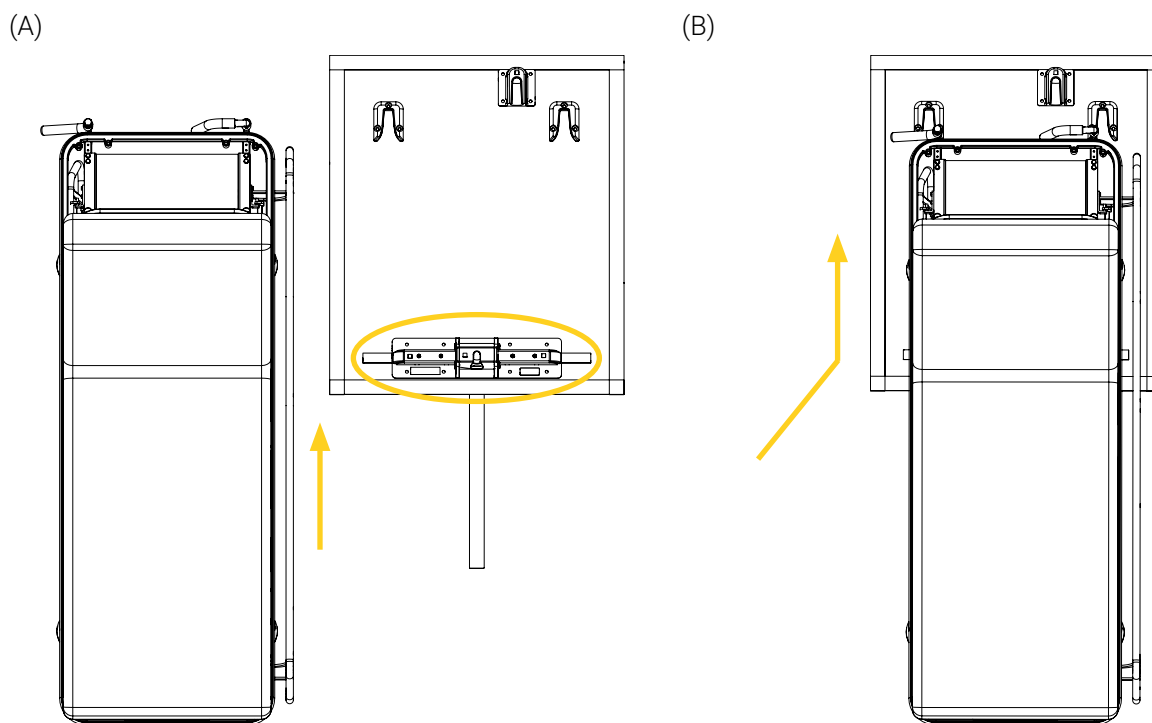
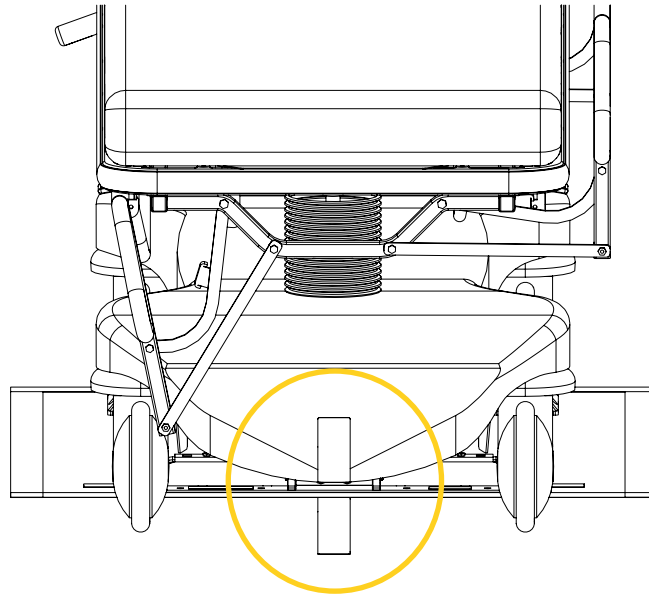

Figure 16: Safely approaching the anchoring system with the stretcher
Figure 17: Aligning the AnchorMed Floor Mount and AnchorMed Stretcher Mount
2. Steer the patient head end of the stretcher towards the AnchorMed Floor Mount, staying outside the tripping hazard perimeter, until the front casters have gone past the Floor Anchor (Figure 16 A). Refer to the « Safety Labels » section on page 10 if needed.
3. Steer the stretcher around the Floor Anchor inside the tripping hazard perimeter and towards the Hitch Floor Guide and Caster Floor Guides (Figure 16 B), using the alignment decals to facilitate the line up of the AnchorMed Floor Mount and AnchorMed Stretcher Mount (Figure 17). Refer to the « Labels » section on page 10 if needed. Refer to the « Safety Labels » section on page 10 if needed.